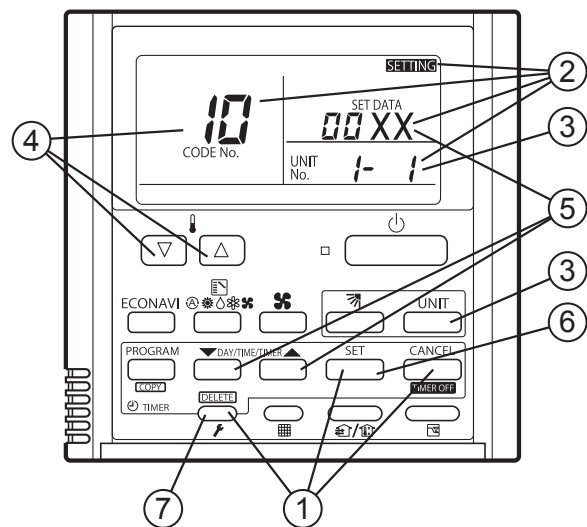

Fig. 7-3
- "SETTING", unit No. "1-1" (or "ALL" in the case of group control), item code "10", and settings data "00XX" are displayed blinking on the remote controller LCD display (Fig. 7-3). At this time, the indoor unit fan (or all indoor unit fans in the case of group control) begins operating.